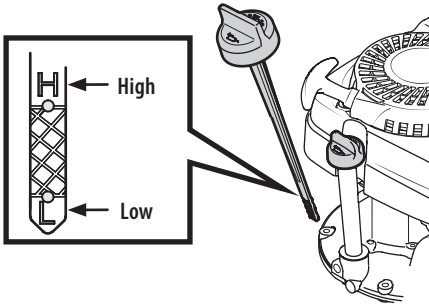

Figure 4
1. Remove the oil fill cap and wipe the dipstick clean (Figure 4).
3. Loosen and remove the oil fill cap from the oil fill neck. Note the oil level, if the level is low, slowly add oil until oil level registers between high (H) and low (L) (Figure 4 inset).